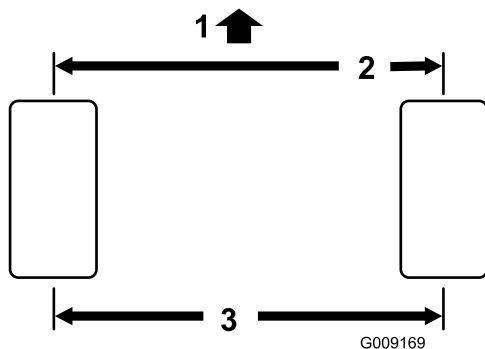

Figure 46
5. Measure the distance between the front tires at axle height at both the front and rear of the tires (Figure 46).